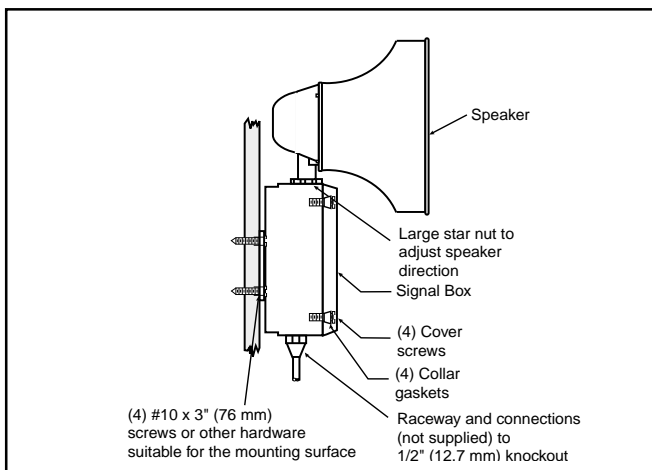

Figure 2. Adaptatone Mounting
1. Mount Adaptatone as shown in Figure 2.
- Flat Surface Mounting.** Secure unit to mounting surface using the (4) mounting holes in the mounting plate on the rear of the box. Use the #10 x 3" (76 mm) wood screws (furnished loose) or other hardware (not supplied) suitable for the mounting surface.
- Rigid Pipe Mounting.** Loosen the (4) cover screws from the signal box and lift off signal box cover.
6. To adjust speaker direction, loosen large star nut (Figure 2) and turn speaker to the approximate desired position. Retighten nut and turn speaker slightly clockwise until locked into place.